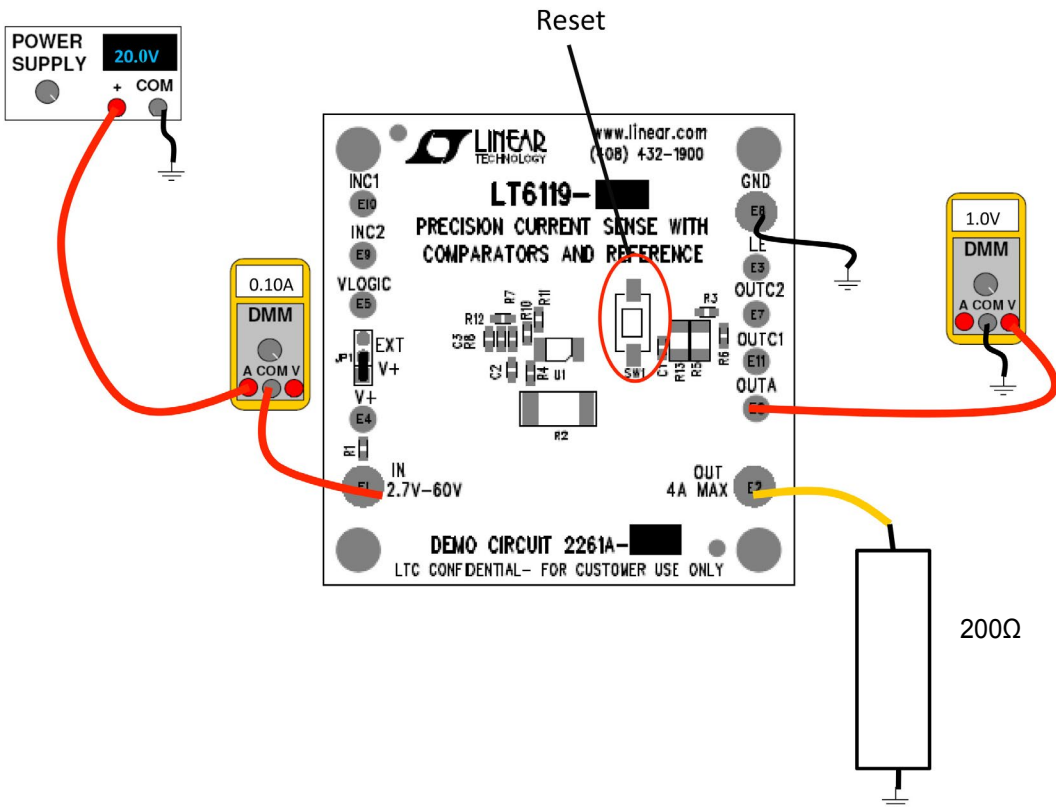

Figure 1. Test Setup
With the demonstration circuit, it is easy to set up and evaluate the performance of the LT6119. Refer to Figure 1 for proper measurement equipment setup and follow the procedure below:
1. With the power off, connect the power supply positive to IN and the common to GND. With default settings the supply can range from 2.7V to 60V. If the supply does not have an accurate current readout, a DMM may be connected in series with the supply as shown in Figure 1.